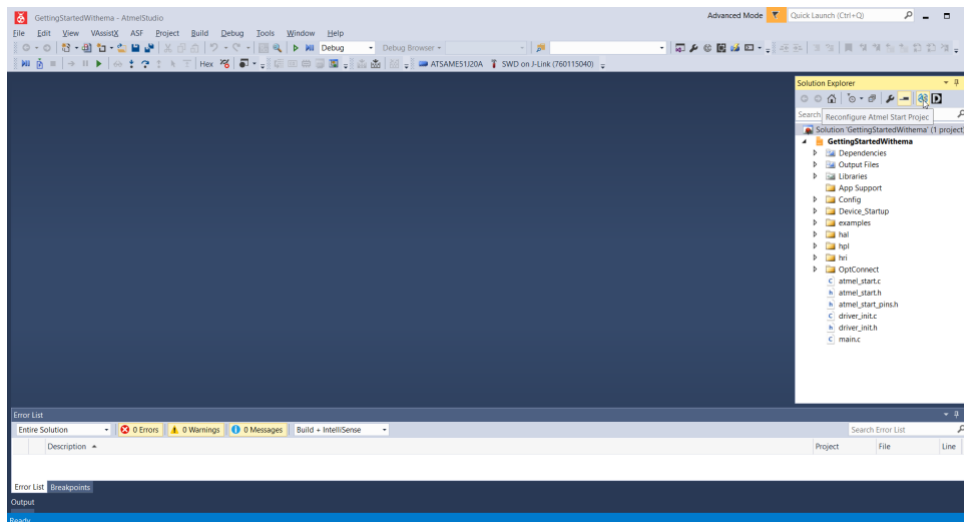

Figure 7
5. **Investigate the Atmel | Start Setup:** On the right side of the screen, navigate to the “Solution Explorer”, and click on the “Reconfigure Atmel Start Project” button as shown in Figure 7.